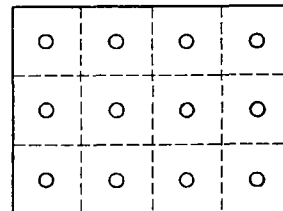

Figure F1-3. Rectangular stack cross-section layout.
1. Determine the grid configuration from Table F1-1, and locate the traverse point at the centroid of each elemental area (see example in Figure F1-3).